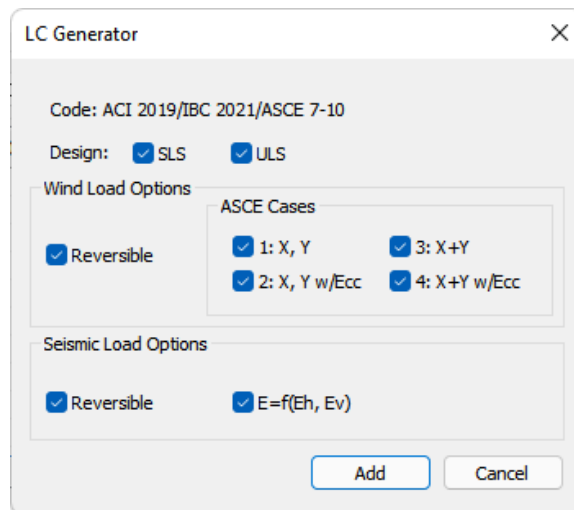

FIGURE 11-8
- Make the following selections in the *LC Generator* window as shown in **FIGURE 11-8**.